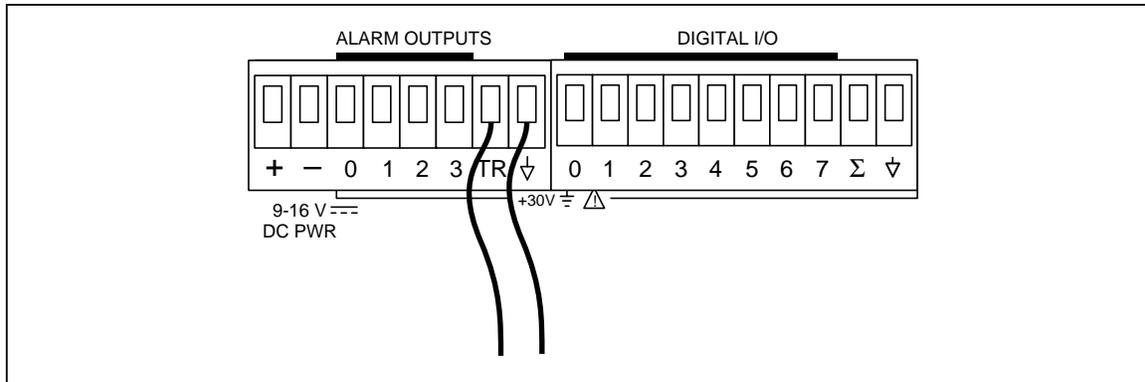

Figure 6-5. External Trigger Test
2. Remove the Alarm Output eight terminal connector module from the rear of Hydra Series II and all external connections to it. Connect short wires (to be used as test leads) to the ground (\perp) and TR terminals. Leave other ends of wires unconnected at this time. Reinstall the connector. Refer to Figure 6-5.